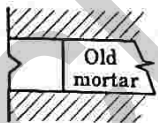

Fig. 5.20.7. Vee-pointing
7. Vee-Pointing : In this type of pointing, a Vee-shaped groove is formed in the mortar joint as shown in Fig. 5.20.7.